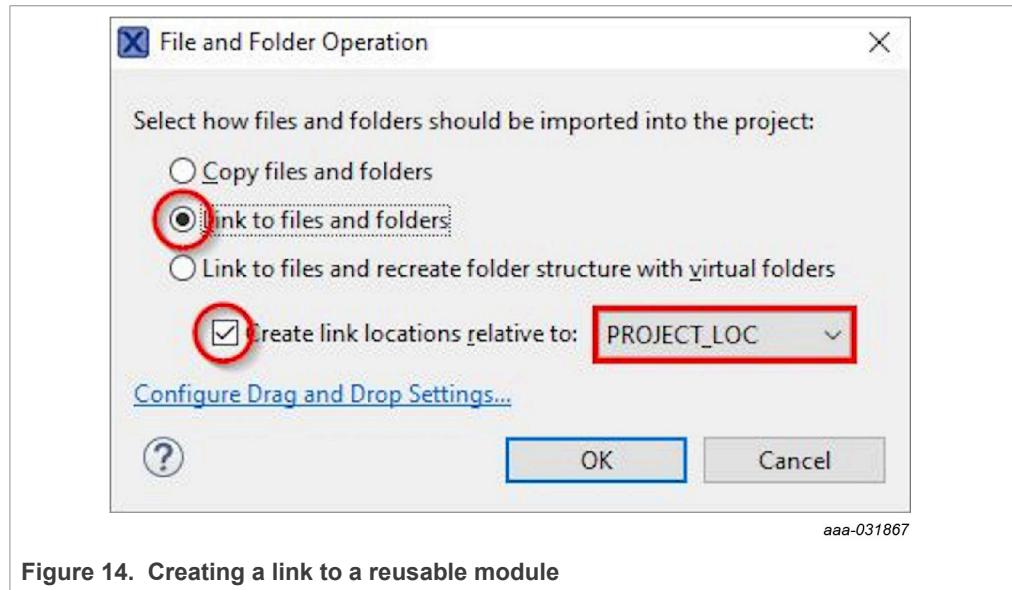

Figure 14. Creating a link to a reusable module
2. A window pops up. Ensure that Link to files and folders and Create link locations relative to: PROJECT_LOC are selected (see Figure 14).